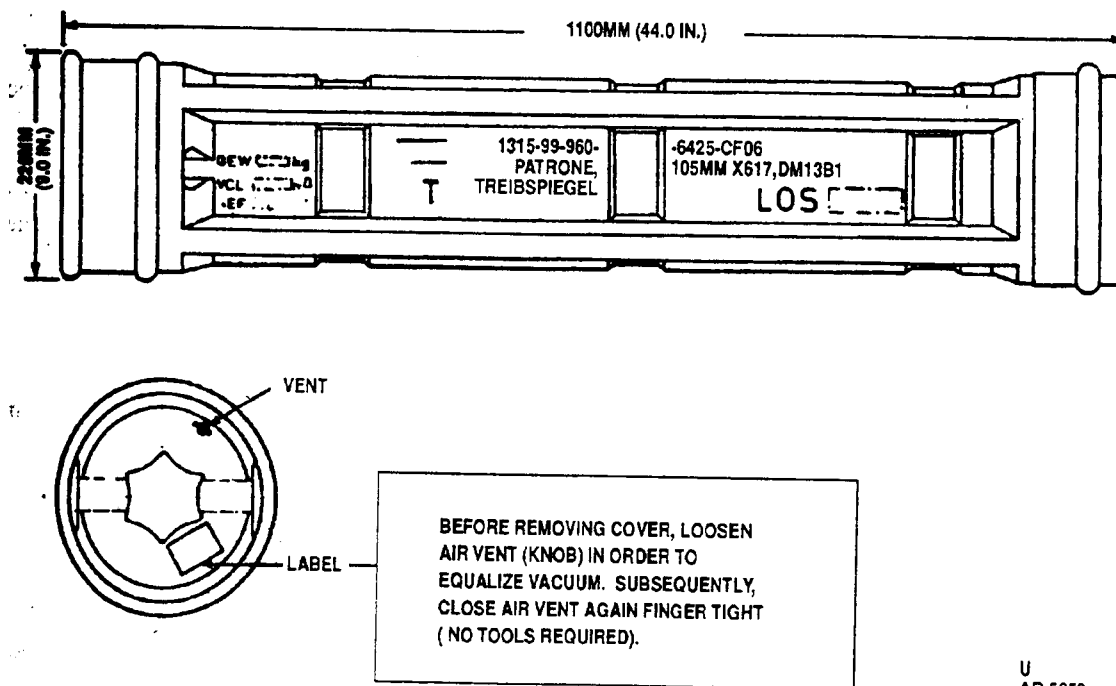

Figure 3-13. Metal Container for Cartridge APDS-T, DM13B1 (GE).
3.3.16 Metal Container for Cartridge APDS-T, DM 13B1 (GE) (fig. 3-13).